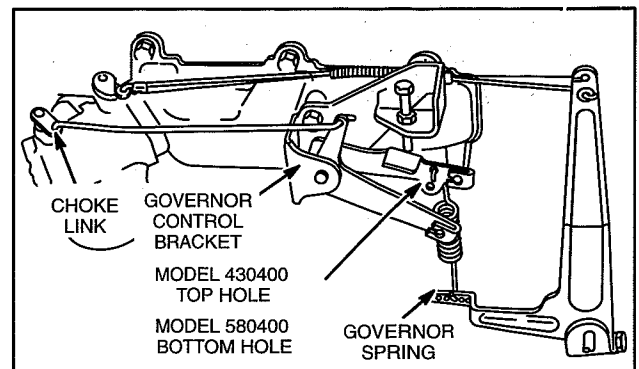

Fig. 22 – Install Governor Control Lever
- a. Assemble governor control bracket to intake manifold, Fig. 22.